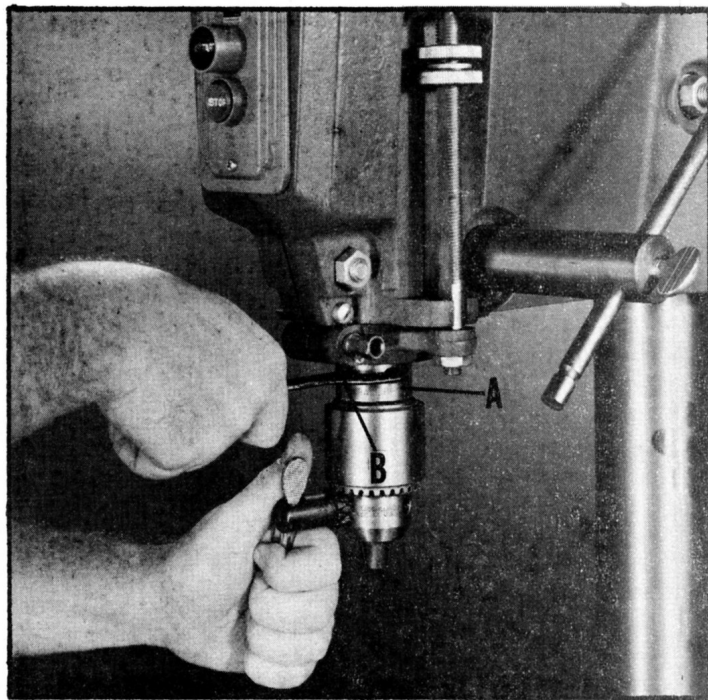

Fig. 6.
6. When attaching adapters to the spindle, it is very important to wipe clean both the spindle taper and taper hole in adapter. Then place the adapter on the spindle and tighten the locking collar (A) Fig. 6. If in checking the spindle for accuracy, there should be a run out, we suggest that the adapter be removed and turned perhaps one quarter or one-half turn and replaced. This may reduce or eliminate the run out, it may also increase it, in which case, remove the adapter and turn it some more on the spindle.
7. When removing either the spindle adapters or the Cat. #15-830 chuck, we recommend the use of Cat. #15-838 spanner wrench (B), Fig. 6, which is available as an accessory. Turn the locking collar of the adapter or chuck with the spanner wrench while keeping the spindle from turning by either holding V-belt or holding the chuck with the chuck key in one of the pilot holes in the nose of the chuck.